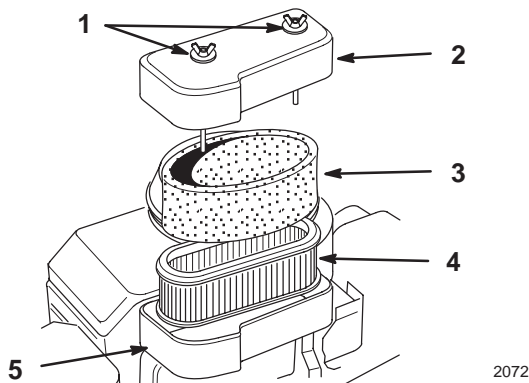

Figure 30
2. Clean around the air cleaner to prevent dirt from getting into the engine and causing damage. Unscrew the cover nuts and remove the air cleaner cover (Fig. 30).
3. Remove the air cleaner assembly (Fig. 30).
4. Carefully slide the foam element off the paper element (Fig. 30).
1. Carefully slide the foam element onto the paper air cleaner element (Fig. 30).
2. Place the air cleaner assembly onto the air cleaner base (Fig. 30).
3. Install the air cleaner cover and secure with cover nuts (Fig. 30).